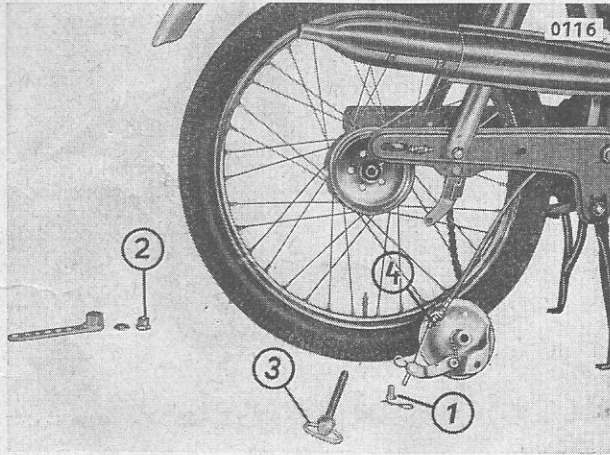
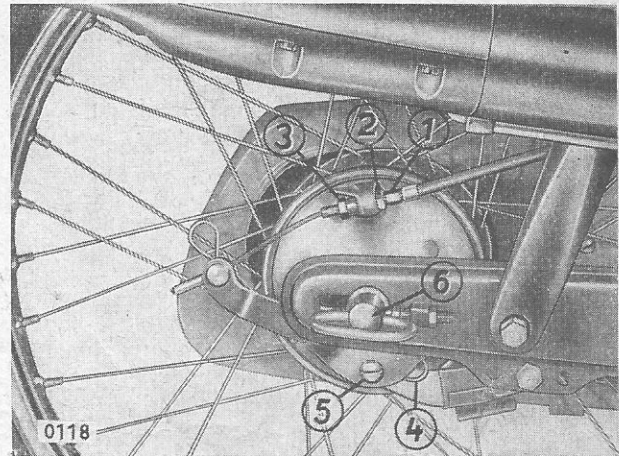

Fig. 16: Dismantling the rear wheel:
Fig. 18: Adjusting rear brake:
2. Pull out lacking spring (Fig. 16/1, 18/4) and take out retaining bolt so as to be able to remove brake retaining shackle (Fig. 18/5).
3. Unscrew left-hand side lynch pin nut (Fig. 16/2, 14/2) by means of spark plug wrench, hold up at right-hand side handle (Fig. 16/3, 18/6).
4. Pull out lynch pin by the handle. Push wheel slightly towards front wheel so that the chain may be lifted from sprocket (Fig. 16).
downwards and pull brake plate out of hub (Fig. 16/4). After having removed brake plate, take off rear wheel.
The adjusting screw of the rear brake cable (Fig. 18/1) will be found on the brake adjusting sleeve on the brake plate. For adjustment purposes, first slacken slotted collar nut (Fig. 18/3) of the adjusting screw.
Then open adjusting sleeve screw until brake has good grip again. Retain adjusting sleeve screw by the spanner, tighten counter nut (Fig. 18/2) and collar nut.